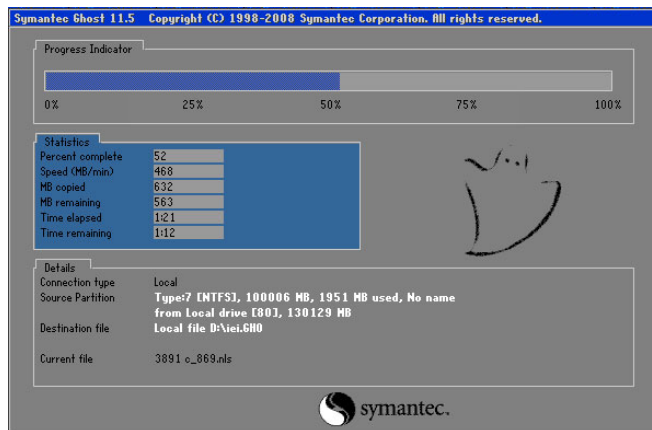

Figure A-28: Image Creation Complete
Step 8: The Symantec Ghost starts to create the factory default image (Figure A-28).